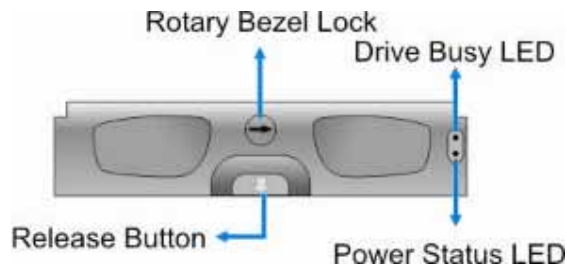

Figure 1-6: Drive Tray Front View
The subsystem comes with sixteen (16) drive trays (see **Figure 1-6**) designed to accommodate separately purchased, standard 1-inch pitch, 3.5-inch SAS or SATA-II disk drives. The drive bays are accessible from the enclosure front panel. Two (2) LEDs on the front bezel indicate the operating statuses. A rotary bezel lock on each drive tray secures the hard drive in place, while a release button enables fast retrieval of a hard drive.